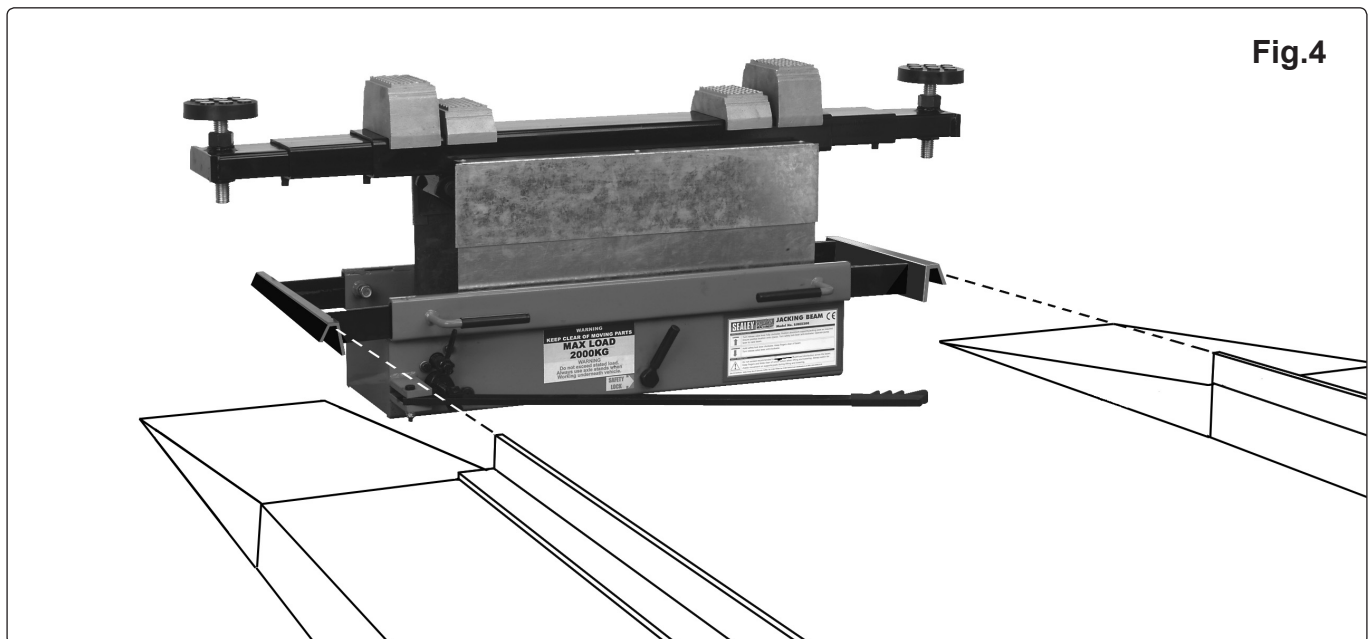

Fig.4
- 3.2.1. Alternative hook arm supports are supplied for use where the runners on a ramp or pit are vertical (see fig.4). Loosen the roller arm set bolts (see fig.2) and withdraw the roller arms from the main frame. Insert the hook arm supports ensuring that the channel faces downwards and set them to match the width of the vertical runners. The hook arm supports should be extended equally either side of the jacking beam. Tighten all four support arm set bolts before mounting the jacking beam onto the runners.